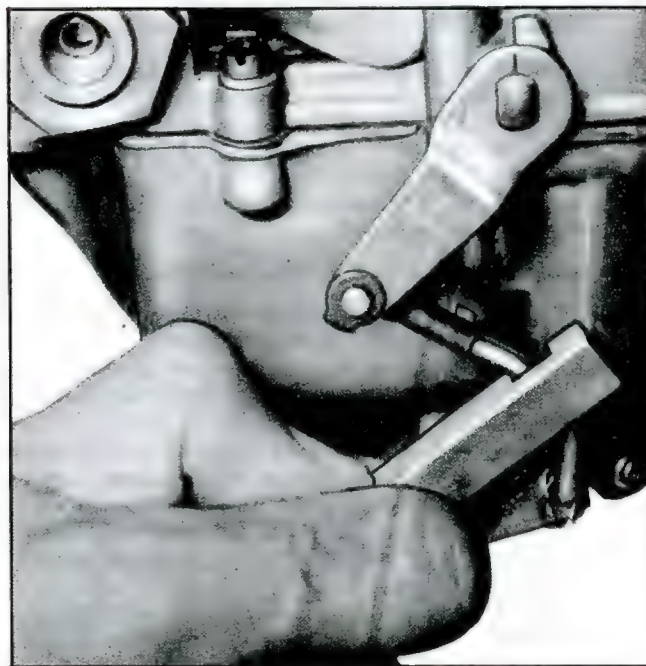

Fig. 24—Adjusting Pump Rod
12. Adjust Pump Rod as follows (Fig. 24):